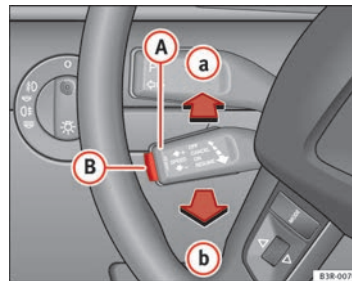

Fig. 144 Controls for the cruise control system
- Press the lever **(A)** \Rightarrow Fig. 144 to position **(a)** (click stop not engaged).